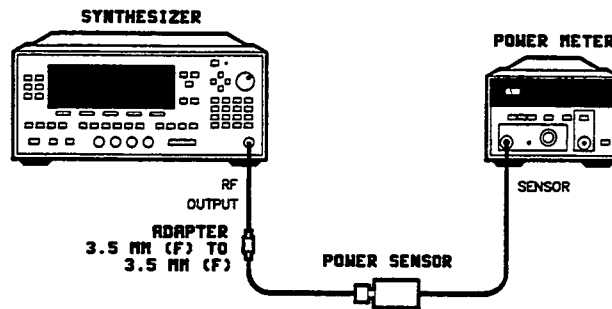

Figure 3-27. ALC Power Accuracy Adjustment Setup
1. Preset the equipment shown in figure 3-27 and let them warm up for at least one hour. Do *not* connect the power sensor to the synthesizer RF OUTPUT yet.